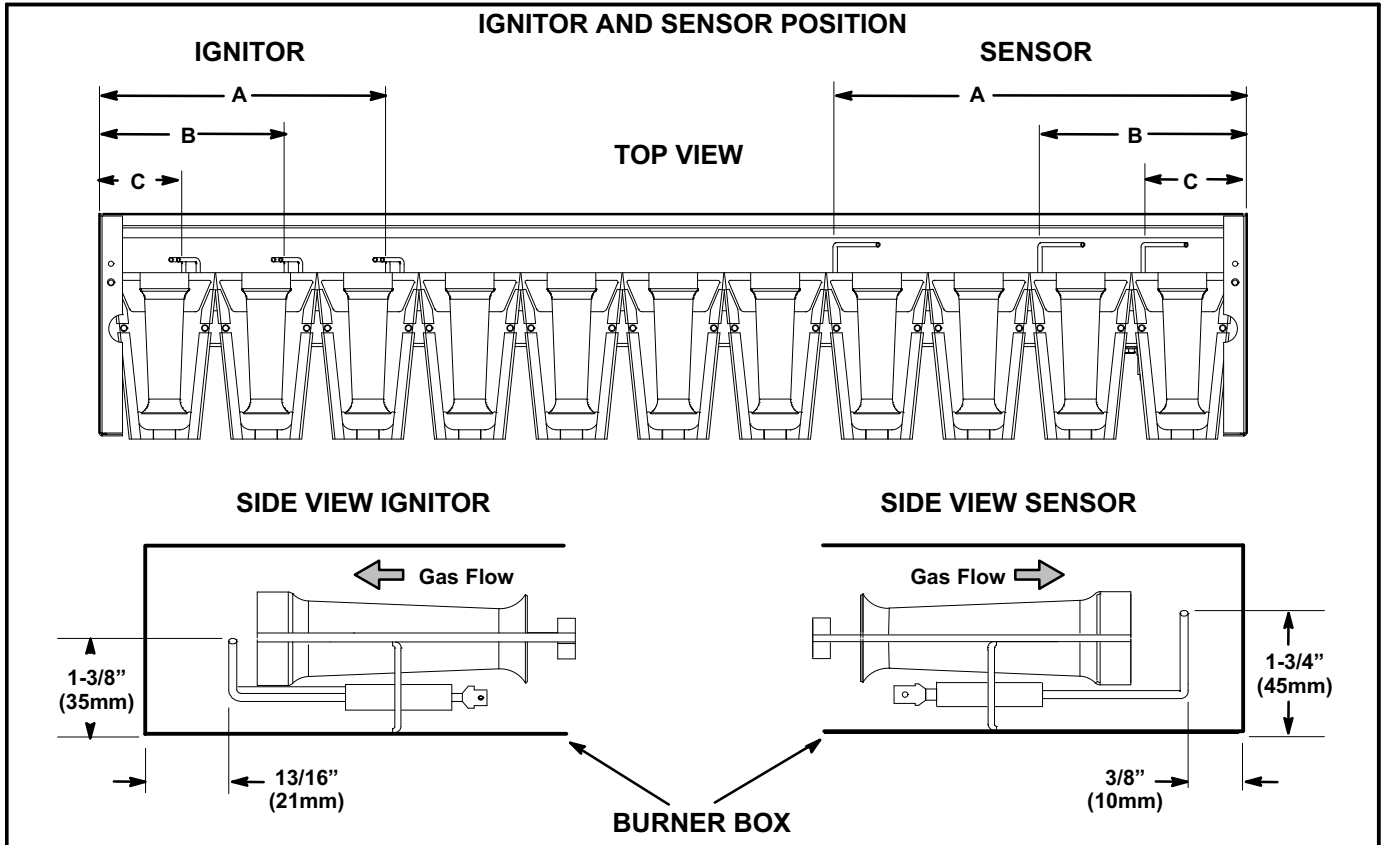

FIGURE 21
- 5- Check the alignment of the ignitor and the sensor as shown in figure 21 and table 10.